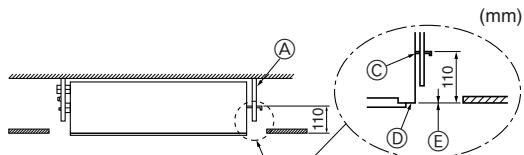

Fig. 2-9
- Tighten all the nuts. (Fig. 2-9)